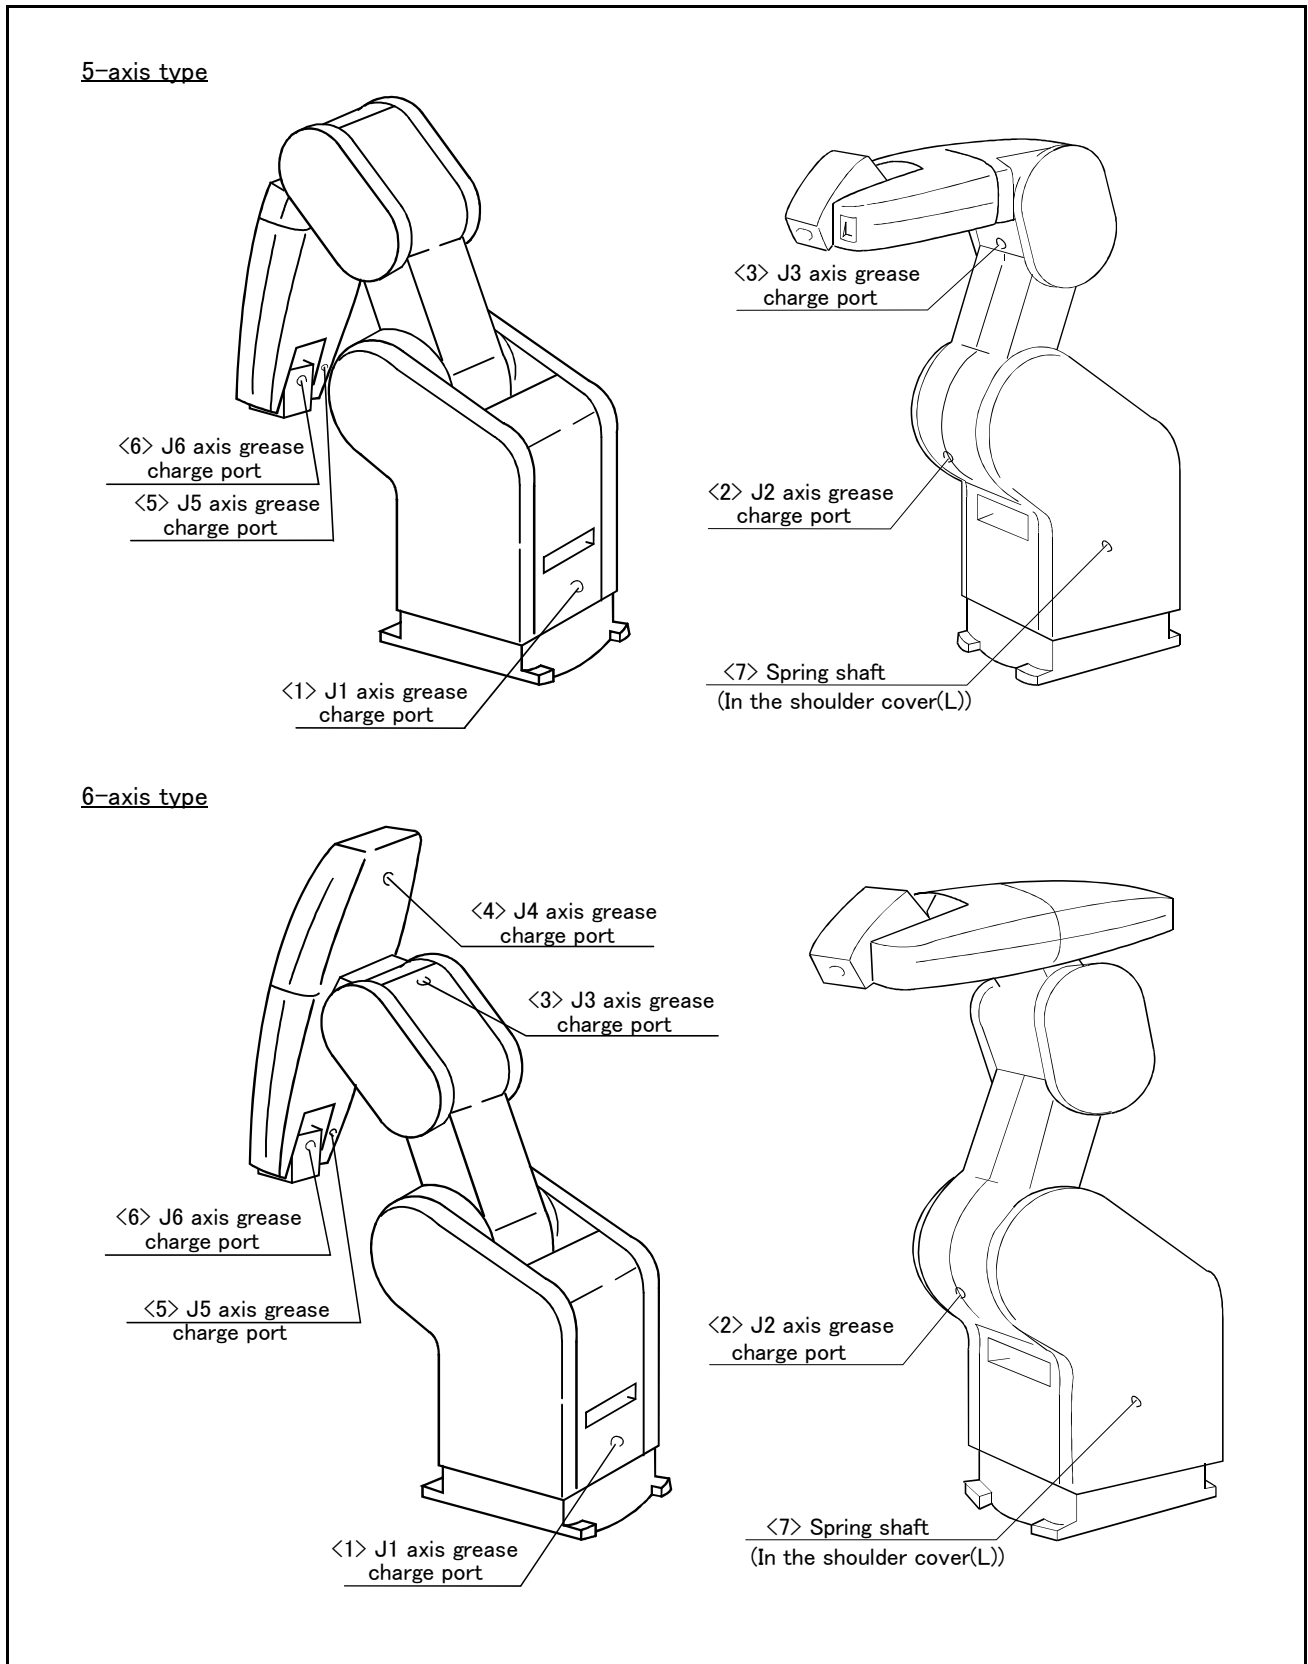

Fig.5-9 : Lubrication positions
The grease nipple position is shown in Fig. 5-9. The lubrication specifications for each place are shown in Table 5-5.
- The numbers in the Table 5-5 correspond to the supply positions in Fig. 5-9.
(2) Reduction gears lubrication method